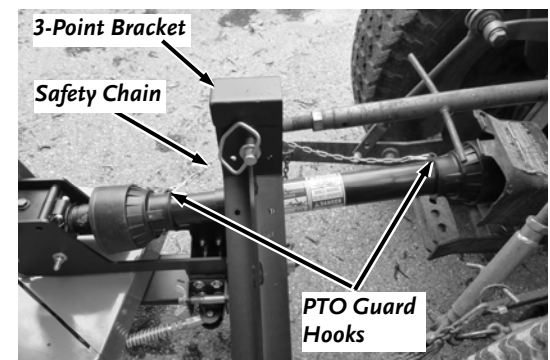

Figure 18
- Attach the Safety Chain of the PTO Shaft around a solid area of the 3-Point Bracket with the Chain ends attached to both ends of the PTO Shaft Guard (**Figure 18**). Make sure the Chain has enough slack in the full range of the Tractor 3-Point Arm travel.